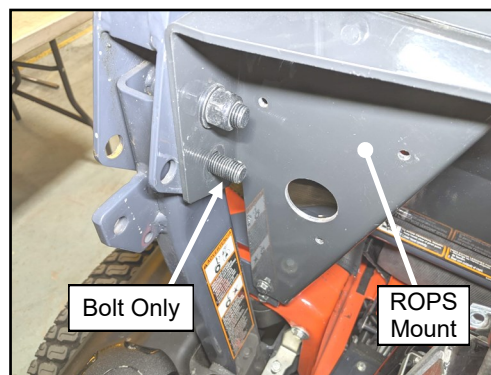

Fig. 3.4 (Install Left ROPS Mount)
- 3.4 See fig. 3.4. Install the left ROPS mount using the following hardware. The large bolt in the pivot hole should be tightened just enough so that the ROPS can still tilt without damaging the paint. The large bolt in the hole where the pin was removed, should be installed through the bracket, but no nut is installed at this time. Tighten the smaller M8 bolt.